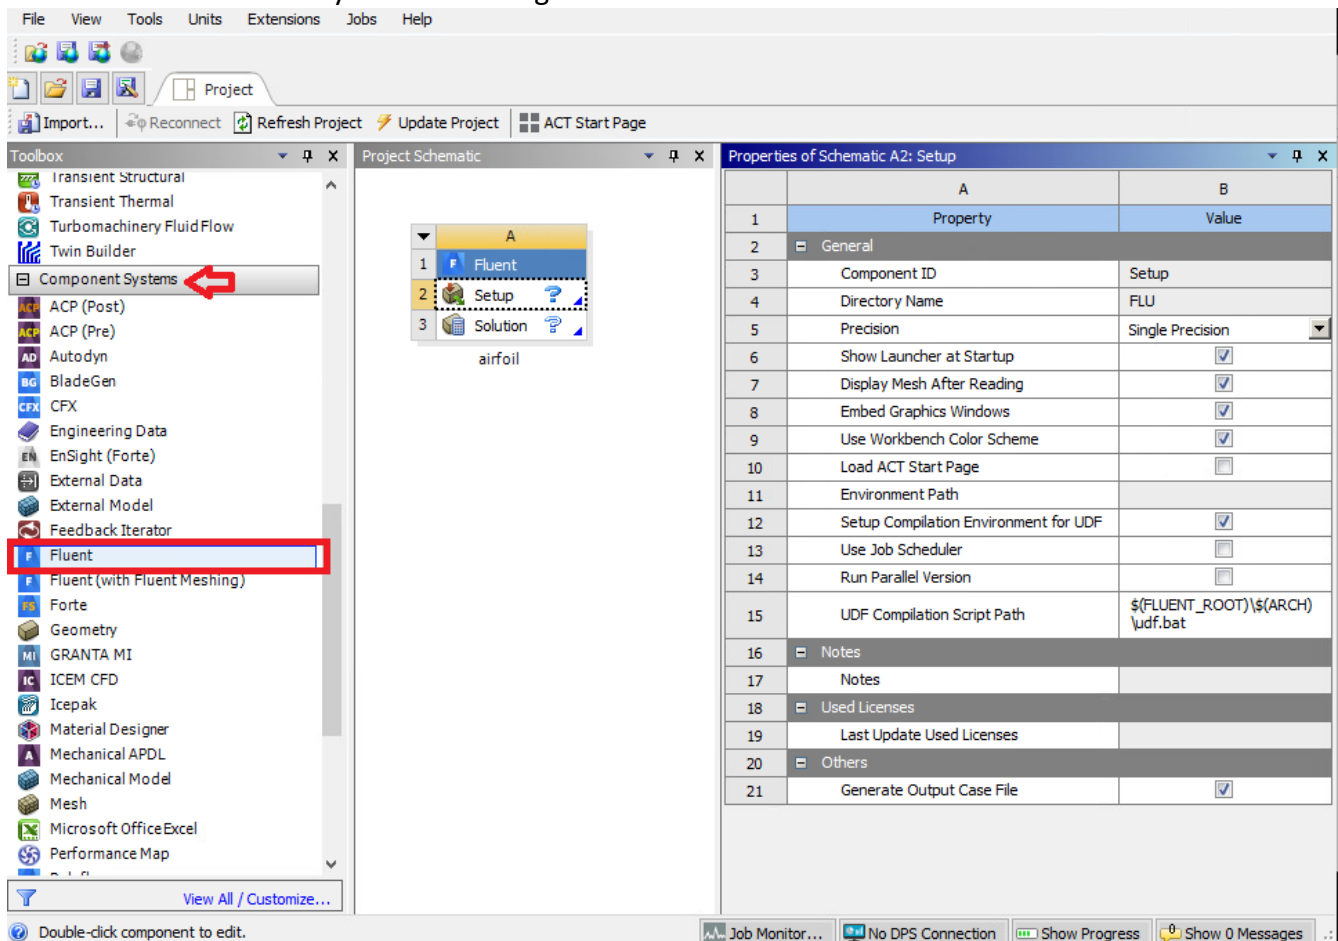

Figure 4. Main ANSYS Menu.
1.3. Expand the “**Component Systems**” tab and then drag (or double click) “**Fluent**” into the **Project Schematic** window as shown in Figure 4. Change the project name at the bottom of **menu A** from “Fluent” to “airfoil” by double-clicking on that.